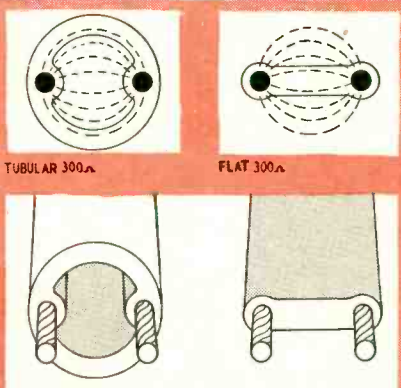

Fig. 3—Tubular and flat type lead-in.
Each new advance in television brings along a number of accompanying advances in associated products. The u.h.f. boom has encouraged the development of a large variety of tubular-type twin lead-in cables. This is the type that is likely to win general acceptance because it seems to provide the best overall characteristics for good u.h.f. reception under all conditions of installation, as well as with aging and weathering. See Fig. 3. In tubular 300-ohm lead-in, the extremely important field of energy is concentrated on the inside and is virtually unaffected by weather conditions. In flat 300-ohm lead-in, the field of energy is largely outside, exposed to all weather conditions and subject to signal loss.
electric, sufficiently thick to serve the purpose of maintaining uniform spacing. See Fig. 3, "tubular 300 ohm." The dielectric, by surrounding the cable throughout its entire length, contributes markedly to attenuation losses, since the highest energy field is in the straight-line path between the two conductors.
3. The design of the cable is such that there is a thin wall of dielectric covering the wires and most of the field between the conductors is air. This is illustrated in Figure 3.